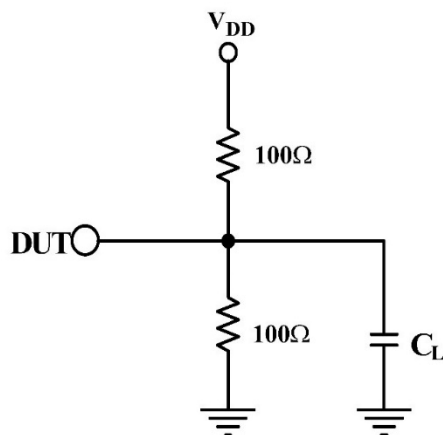

Figure 3. Test Load Circuit for Dynamic Power Supply Current and AC Measurements
- When measuring the dynamic supply current, all outputs are loaded in accordance with the equivalent test load defined in figure 3.
1. Test load = 40pF, terminated to $V_{DD}/2$. All outputs are equally loaded. Reference Figure 3 for clock output loading.